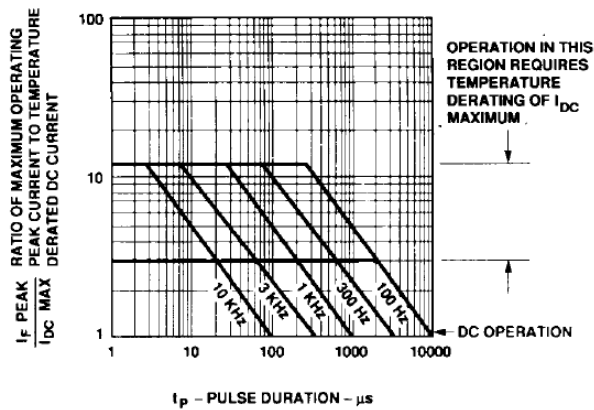

Figure 9. Maximum Tolerable Peak Current vs. Pulse Duration – Green.
7. See Figure 9 to establish pulsed conditions.